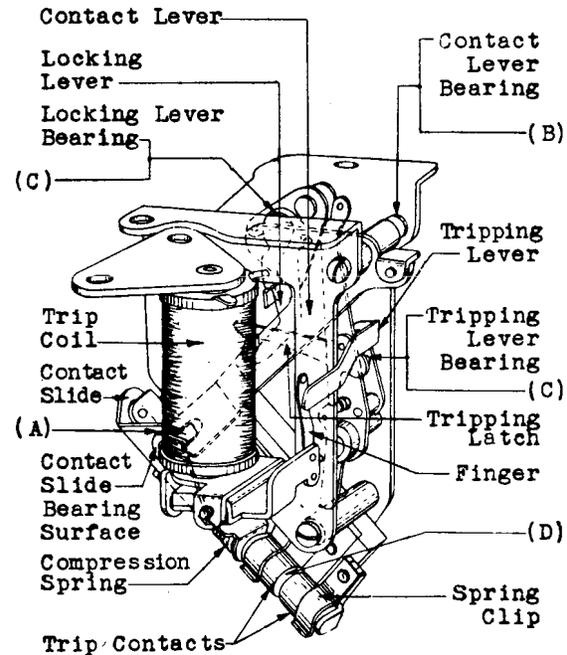

Fig. 4
- Contact Slide Bearing Surfaces - Fig. 4 (A)
- Contact Lever Bearings - Fig. 4 (B)
- Tripping and Locking Lever Bearings - Fig. 4 (C)
*2.17 Contact Separation - Fig. 4 (D) - With the time stamp in the normal position, there shall be a separation between the trip contacts of